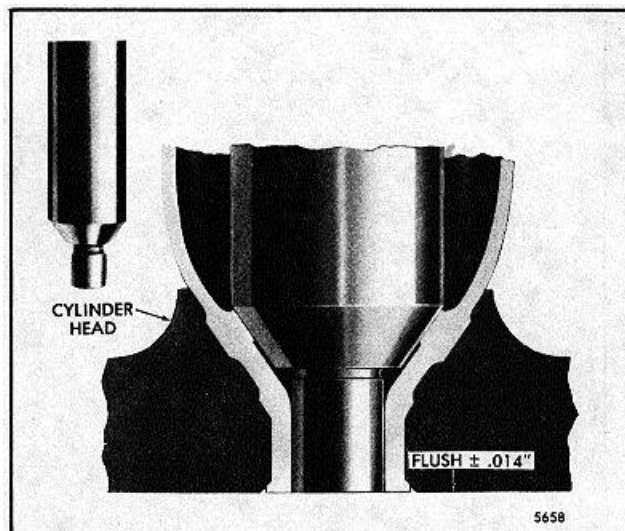

Fig. 7 - Measuring Relationship of Gage to Fire Deck of Cylinder Head
Install gage J 25521 in the injector tube. Zero the sled gage dial indicator J 22273 to the fire deck. Gage J 25521 should be flush to $\pm .014$ " with the fire deck of the cylinder head (Fig. 7).
- d. Remove the chips from the injector tube and, using gage J 25521, continue the reaming operation until the shoulder of the spray tip is flush to $\pm .014$ " with the fire deck of the cylinder head as shown in Fig. 7. Then wash the interior of the injector tube with clean solvent and dry it with compressed air.